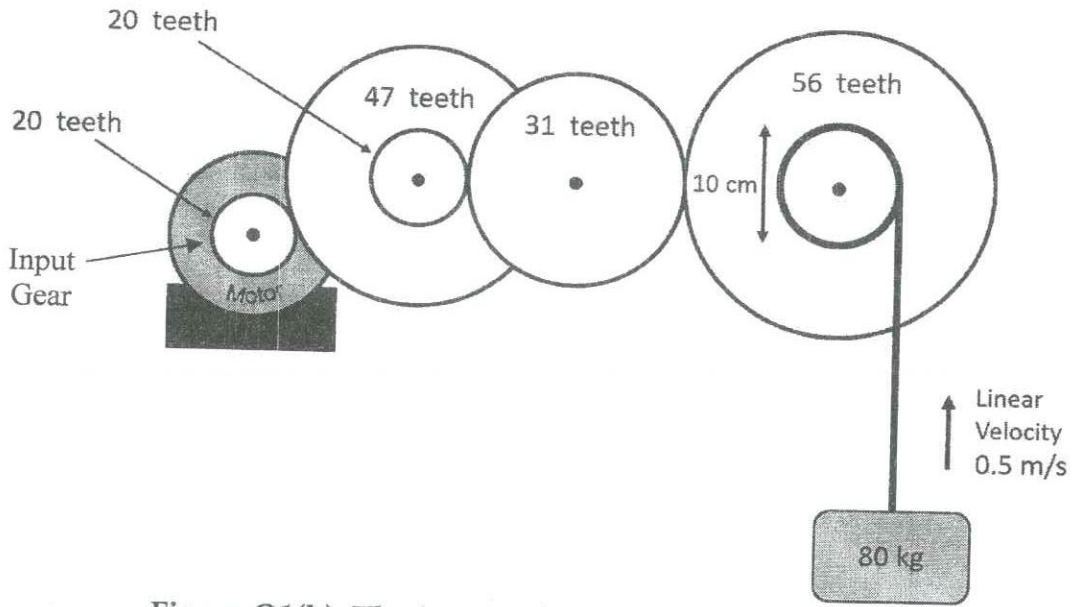

Figure Q1(b): The layout of the compound gear train
- (b) The compound gear train given in **Figure Q1(b)** is used to lift an 80 kg load at a constant velocity of 0.5 m/s using a motor attached to the input gear A. The diameter of the output pulley is 10 cm. Assume that there are no losses between the gears and pulleys. Answer the following,
- (c) Describe **three (3)** possible power transmission options for an epicyclic gear unit.